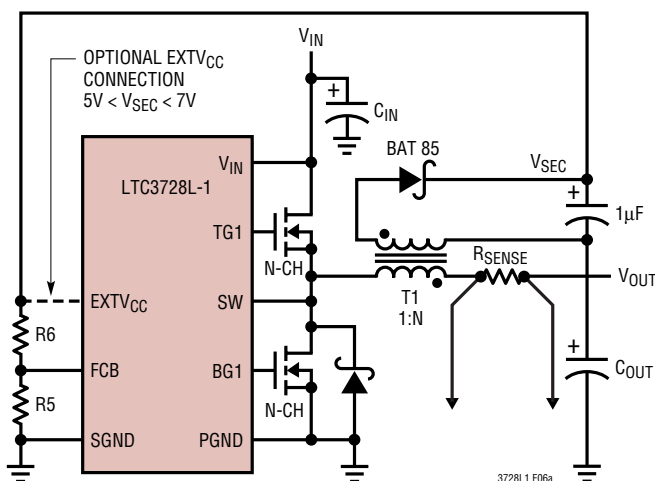
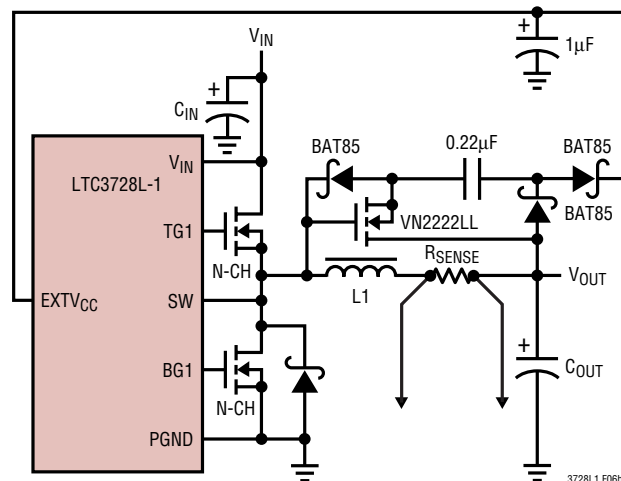

Figure 6a. Secondary Output Loop & $EXTV_{CC}$ Connection
Figure 6b. Capacitive Charge Pump for $EXTV_{CC}$
4. $EXTV_{CC}$ Connected to an Output-Derived Boost Network. For 3.3V and other low voltage regulators, efficiency gains can still be realized by connecting $EXTV_{CC}$ to an output-derived voltage that has been boosted to greater than 4.7V. This can be done with either the inductive boost winding as shown in Figure 6a or the capacitive charge pump shown in Figure 6b. The charge pump has the advantage of simple magnetics.
The secondary output voltage V_{SEC} is normally set as shown in Figure 6a by the turns ratio N of the transformer: